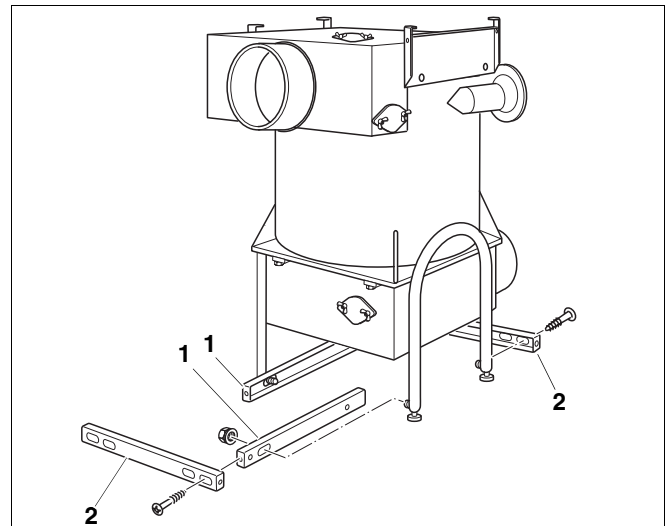

Fig. 8 Fitting lower side beams
- Hook the holes on the left and right lower side beams (Fig. 8, **Item 1**) onto the threaded bolts, and fasten with nuts (Fig. 8).
Bring the slotted holes on the side beams forward (Fig. 8)
- Screw both the front and back cross-beams (Fig. 8, **Item 2**) with 2 self-tapping screws each onto the side beams in such a way that they overlap the same length on the right and left.